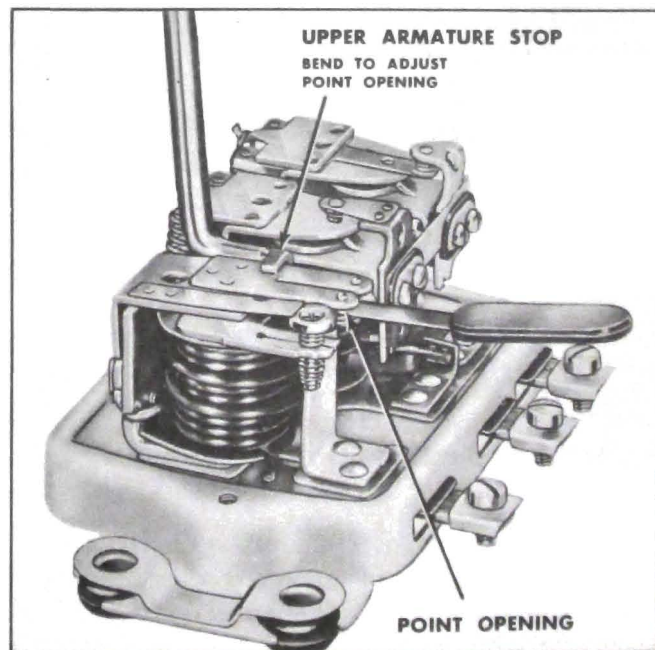

Figure 10-23—Adjustment of Cutout Relay Contact Point Openings
2. Check contact point opening with feeler gauges. Opening should be .020". Increase or decrease point opening, if necessary, by bending the upper armature stop. See figure 10-23.